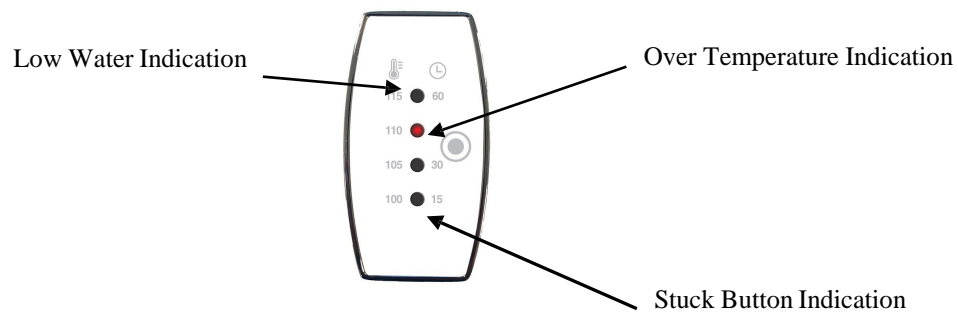

Figure 6
5. **Diagnostic Feature.** The steam control has a unique diagnostic feature. If there is a malfunction within the unit, it will alert you. The red 115° LED will flash when the low water sensor is activated, the red 110° LED will flash if the shower area exceeds 135°F, and the red 100° LED will flash if the control button becomes stuck. If any of these diagnostics happen the unit will shut down and lock out all user interfaces. To reset the unit, power will need to be reset at the breaker. Contact a Steam Services technician at (800) 585-7832 for further trouble shooting steps. (Figure 6)